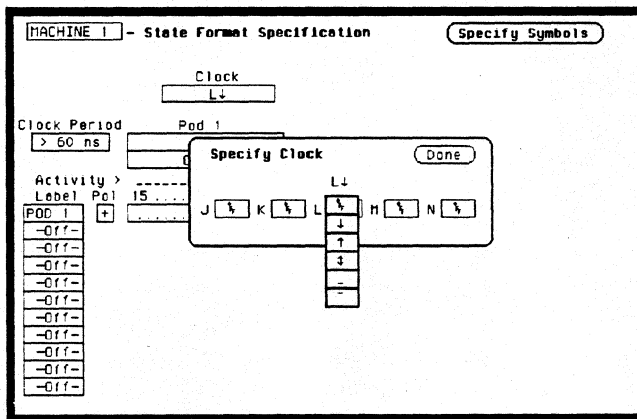

Figure 3-7. Clock Assignment for Data Test 1
- Move the cursor to **Clock** field. Then use the cursor and **SELECT** key to assign the falling edge of the appropriate clock as in figure 3-7.